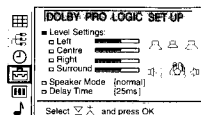

Fig. 32
- 1 Press MENU, select the symbol  on the screen for »Preset« and press OK. Then select »Installation« and »Dolby Pro Logic Set Up« using Δ or ∇ and press OK. The Dolby ProLogic SET UP menu appears (See Fig. 32).